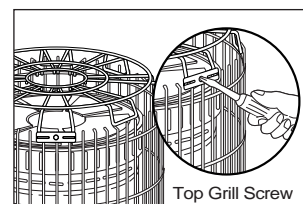

Fig.7
**E) INSTALLING TOP GUARD: (Fig.7)**